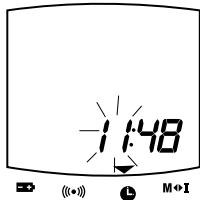

Figure 11
4. The hours start to flash (figure 11). Press the left or right buttons to adjust. Press both buttons to accept.